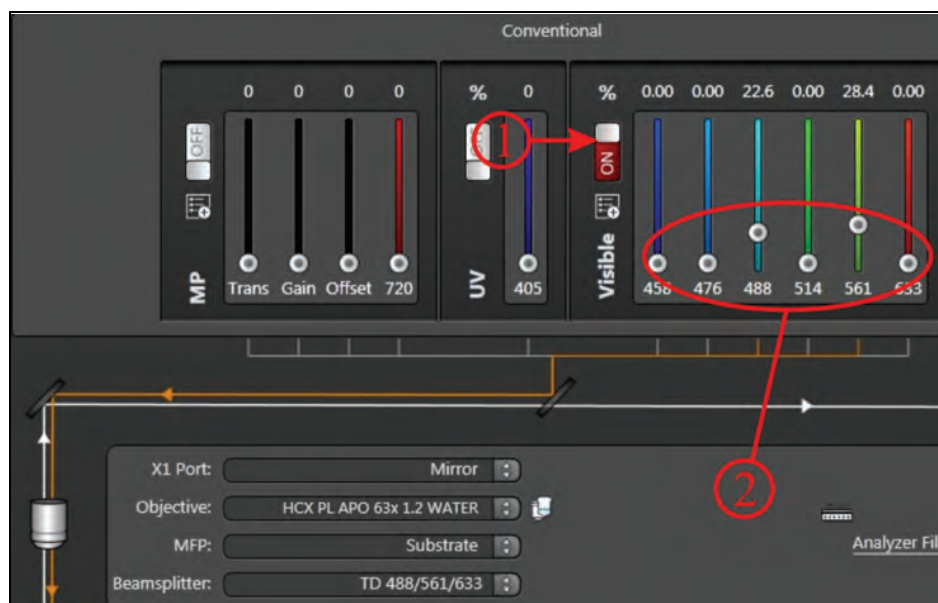

Figure 124: Beam Path Settings in LAS AF: Activating the continuous wave VIS lasers
Close the corresponding shutter (**Figure 124, item 1**) for continuous wave lasers in **Beam Path Settings** and move all AOTF slider settings to 0 (**Figure 124, item 2**).